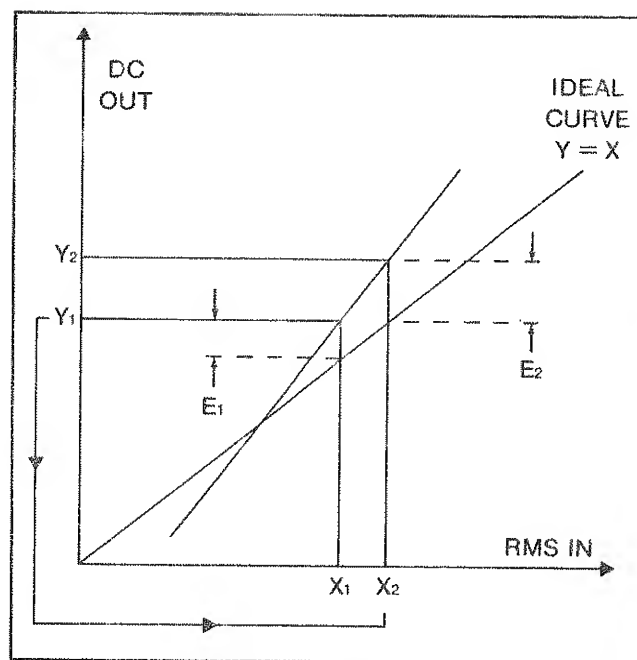

Figure 3-9. Ideal Curve
3-35. Figure 3-9 shows an ideal curve where the rms input (X) equals the dc output (Y), an example of an actual curve, and the positions on the curves for two separate readings. X1 represents the value of the original unknown rms input and Y1 represents the dc value of the sensor output. The difference, or error, between the two values is represented by E1. A second dc voltage (X2) equal to Y1 is applied to the sensor which produces an output Y2. From these it can be seen that: $Y1 = X1 + E1$, $Y2 = X2 + E2$, and $X2 = Y1$. Substituting these values into the formula $2(Y1) - (Y2)$ the rms value of the original input can be computed from the following derived formula.